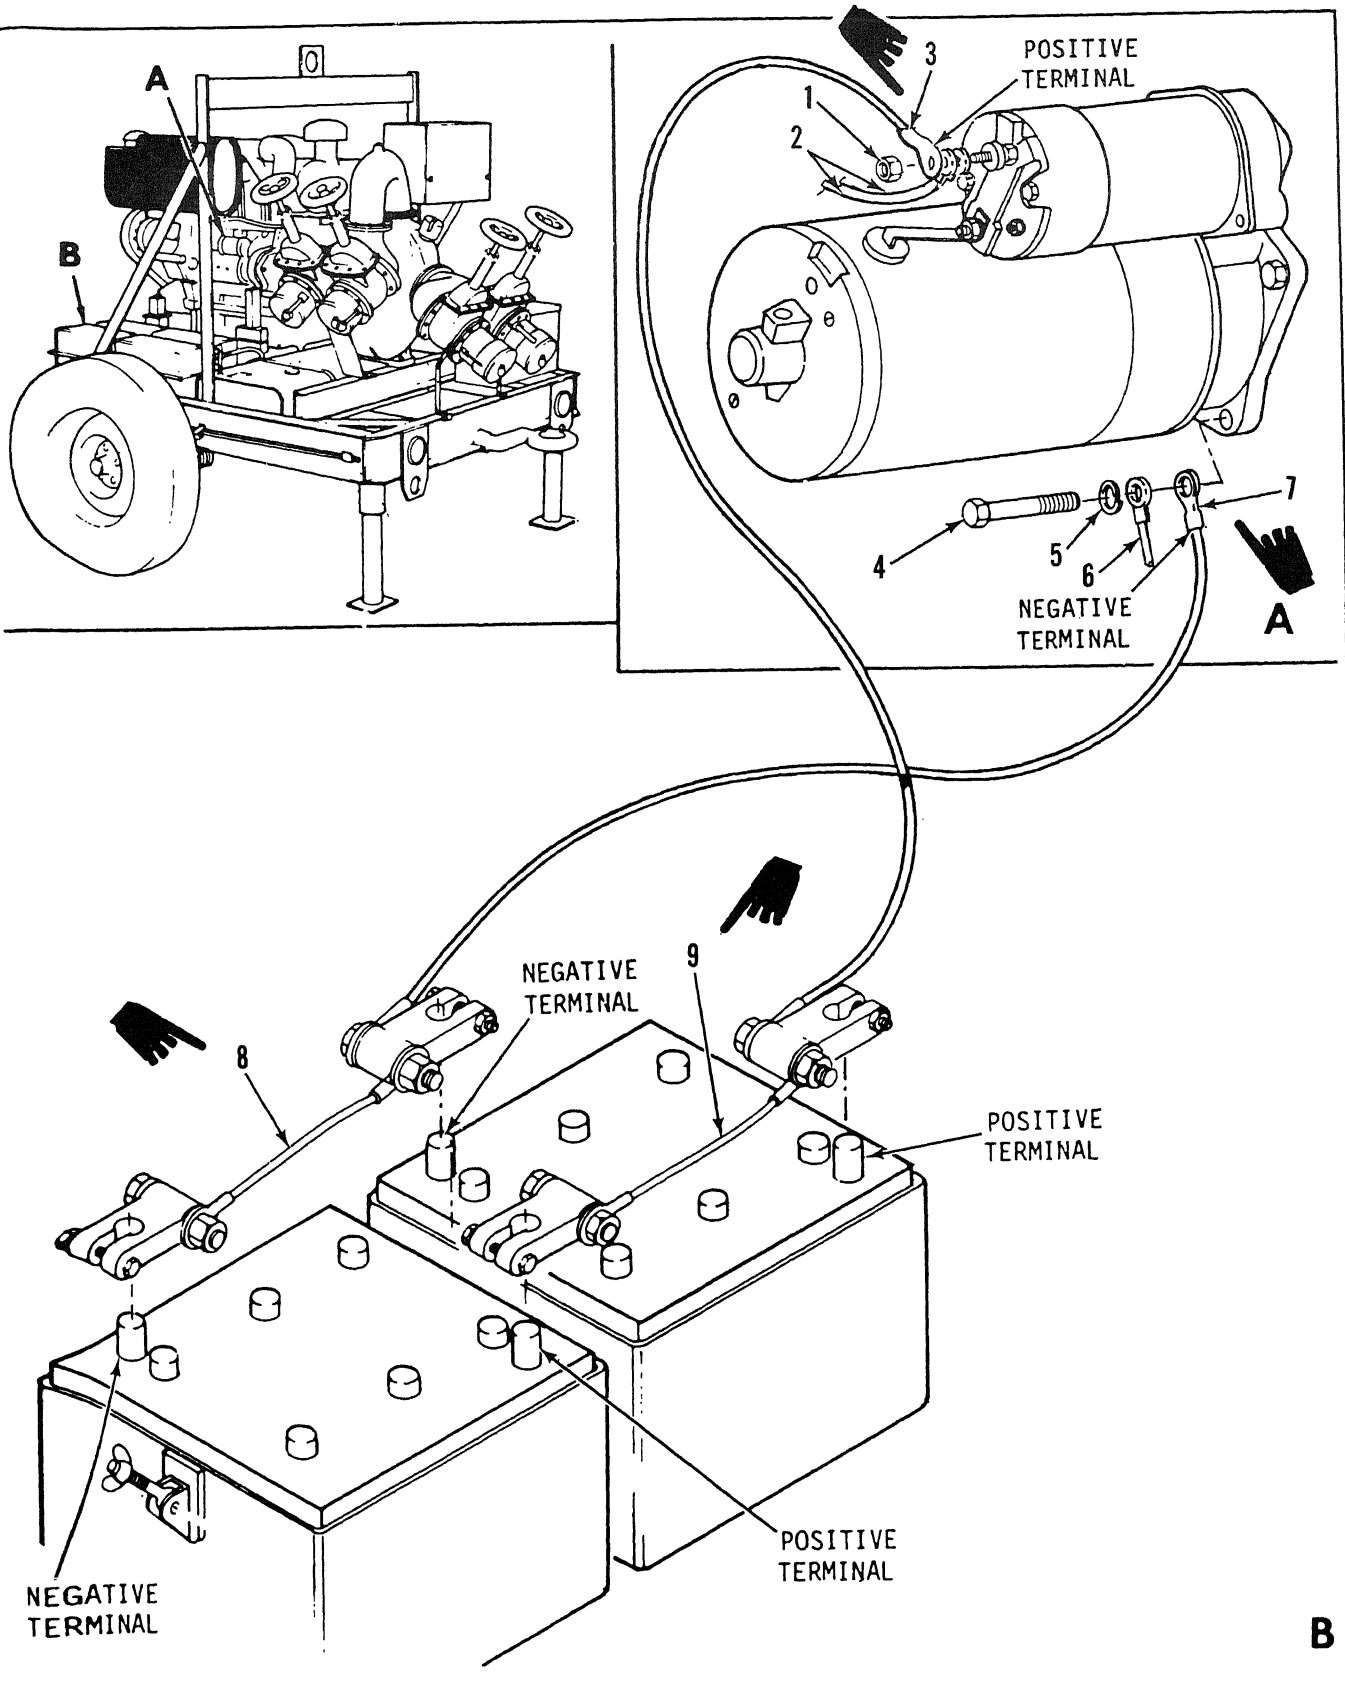

Figure 4-10. Batteries and Cables, Removal/Installation.
4-16. BATTERIES AND CABLES (figure 4-10).
- (2) Position jumpers (8 and 9) and cable (3) on batteries as indicated in figure 4-10.
- (3) Position positive (+) connection to starter solenoid and install nut (1) small leads (2), and cable (3).
- (4) Position ground (-) connection at starter mounting hole and install washer (5), bolt (4), lead wire (6), and cable (7).
- (5) Position cable (7) on battery as indicated in figure 4-10.